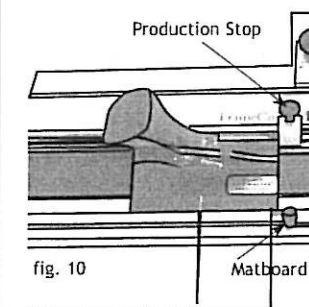

fig. 10
3. Fit the #201 Bevel cutting head onto the rule, and align the Silver Indicator Line on the head with the top pencil line. Slide the Production Stop down the rule until it touches the top of the bevel cutting head. Lock the Production Stop into this position (fig. 10).